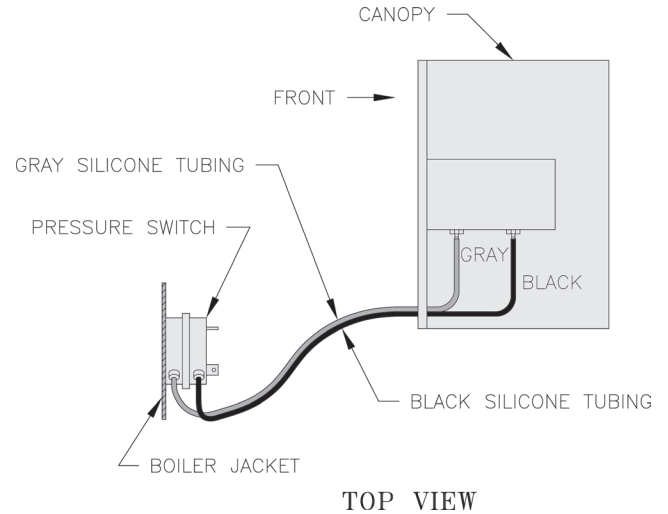

Figure 42: Silicone Tubing Assembly
12. Connect Silicone Tubing between Pressure Fittings on Canopy Assembly and Pressure Switch. Route through bushings in Vestibule Panel . See Figure 42.
4. Stop boiler, remove manometer and reconnect hoses to differential pressure switch. See Figures 42 and 45.